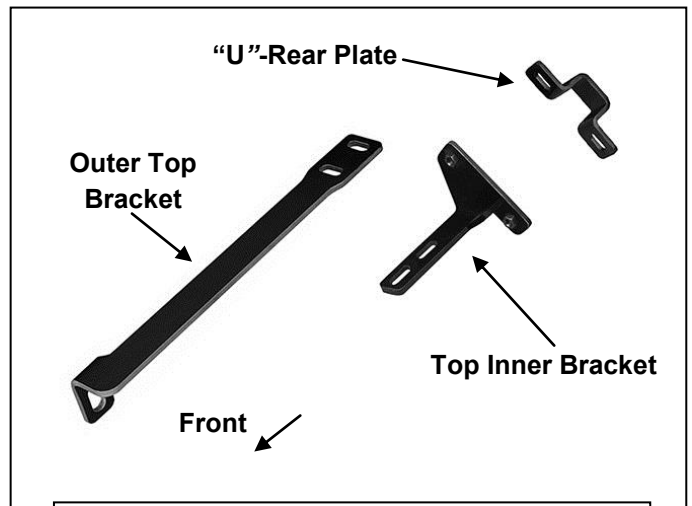

**Fig 7B**
(2) 10mm Nylon Lock Nuts
6. Next, open the hood and remove the plastic cover between the top of the grille and the radiator, (**Figure 7A**). **NOTE:** Use a small flat head screw driver to pop up the center of the plastic clips. Remove the hardware securing the outer ends of the grille to the vehicle. Carefully pull the grille out to release it from the clips with the top of the grill tilted forward, (**Figure 7B**). It is not necessary to remove the grille, only tilt the top forward to access the area between the grille and the radiator.